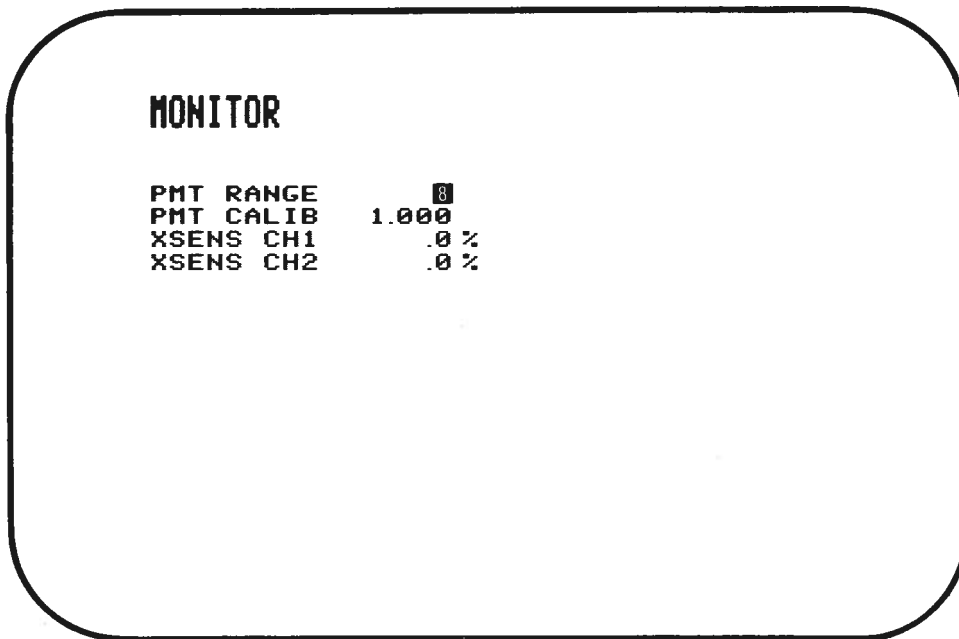

Figure 2.24 Monitor Display
2.3.5 MONITOR UPDATE DISPLAY (Figure 2.24)